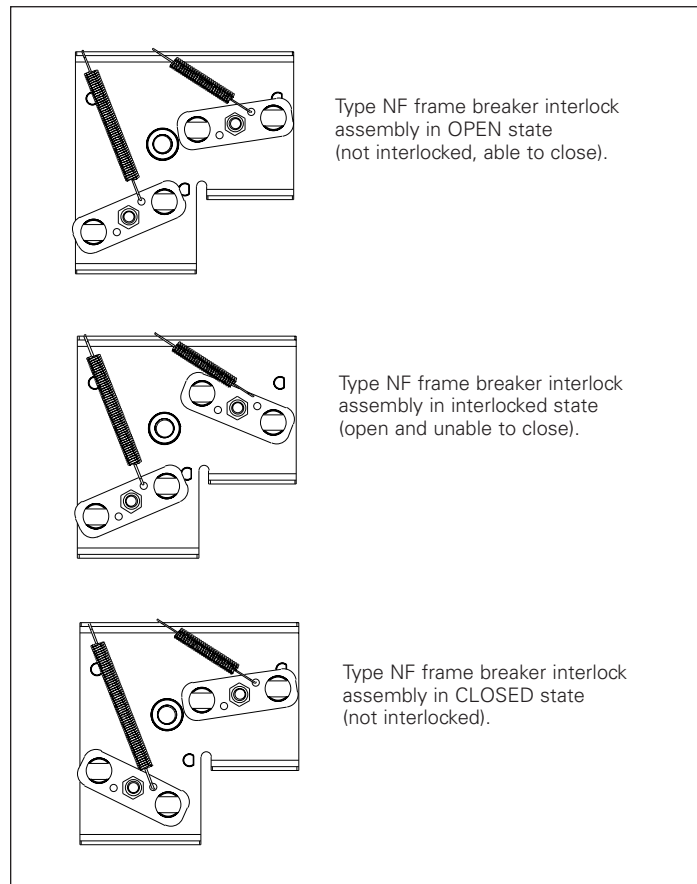

Figure 15. Position of interlock based on breaker state
Refer to **Table 1** and **Figure 1** for breaker position in the interlock configuration. Begin test sequence with all breakers **OPEN**. For **Breaker A**, verify that the interlock assembly is positioned as shown in **Figure 15** while in the various states required by the steps below. For **Breaker B**, use the figure included in the information leaflet for the interlock kit installed on that breaker.
- Verify that **Breaker A** is closed using the OPEN/CLOSED indication and **Figure 15**
- Inspect driven lever on **Breaker B**—it should be positioned as shown in the figure of the information leaflet (IL) for the interlock kit installed on **Breaker B**
Check 2: Open Breaker A (verify it opens using the OPEN/CLOSED indication and Figure 15)
- Verify proper operation on both breakers (use **Figure 15** to verify when **Breaker A** is interlocked)